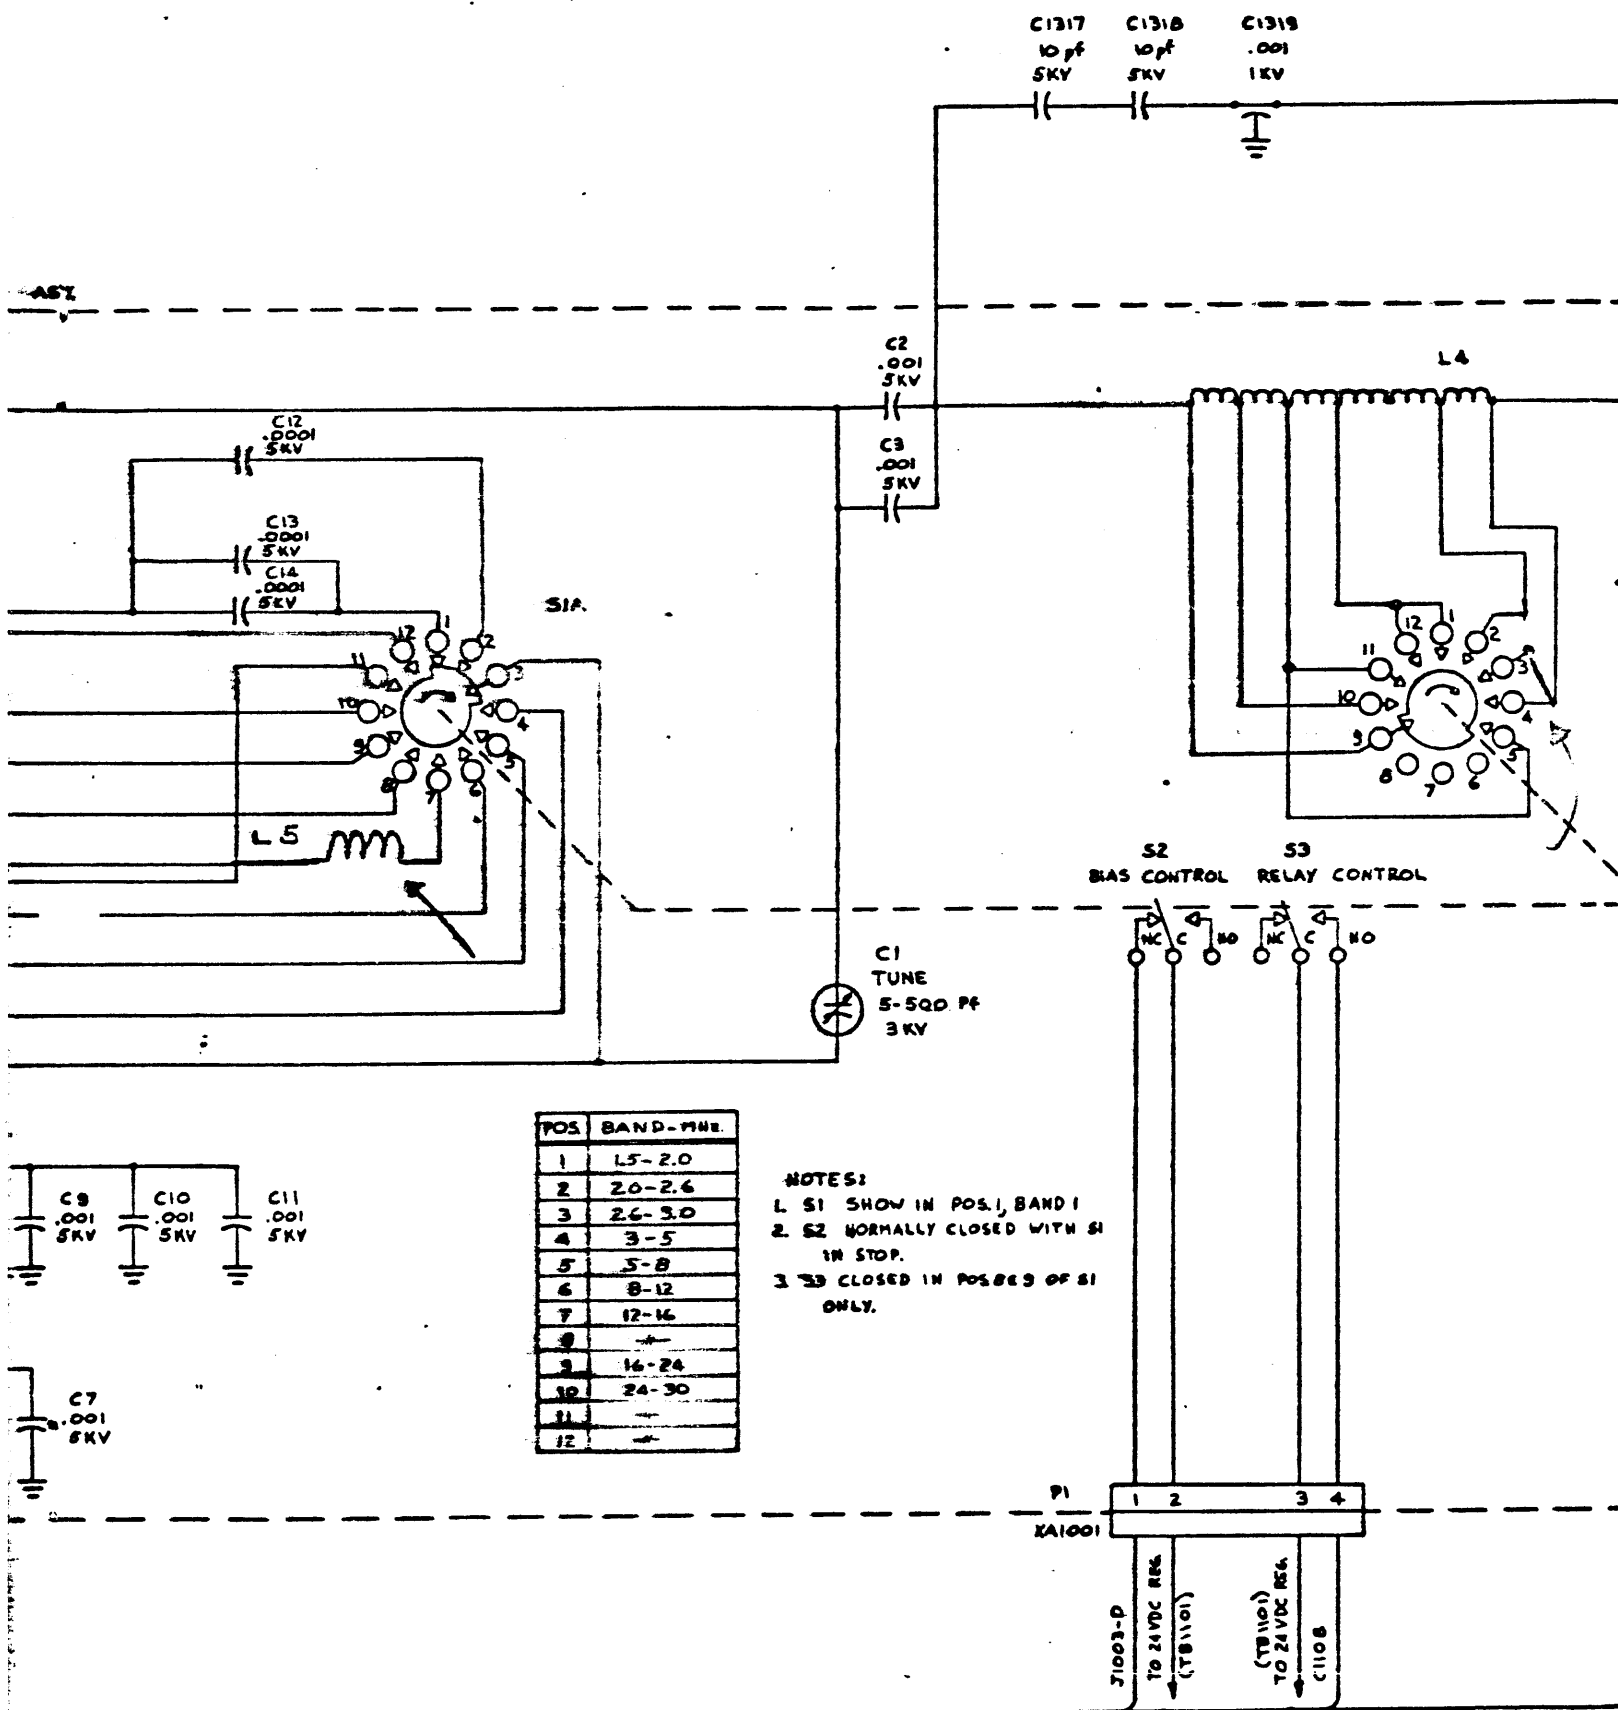

Figure 7-1. Power Amplifier TLAM-1K, Schematic Diagram (CK1845A) (Sheet 3 of 3)
1. On page 7-3/7-4, Figure 7-1 (Sheet 1):
Please make pen and ink corrections to Figure 7-1 (Sheet 1) as indicated in Figure 1 and 2 below:
1. On page 7-7/7-8, Figure 7-1:
Please make pen and ink corrections to Figure 7-1, as indicated on the figure attached to this change notice.